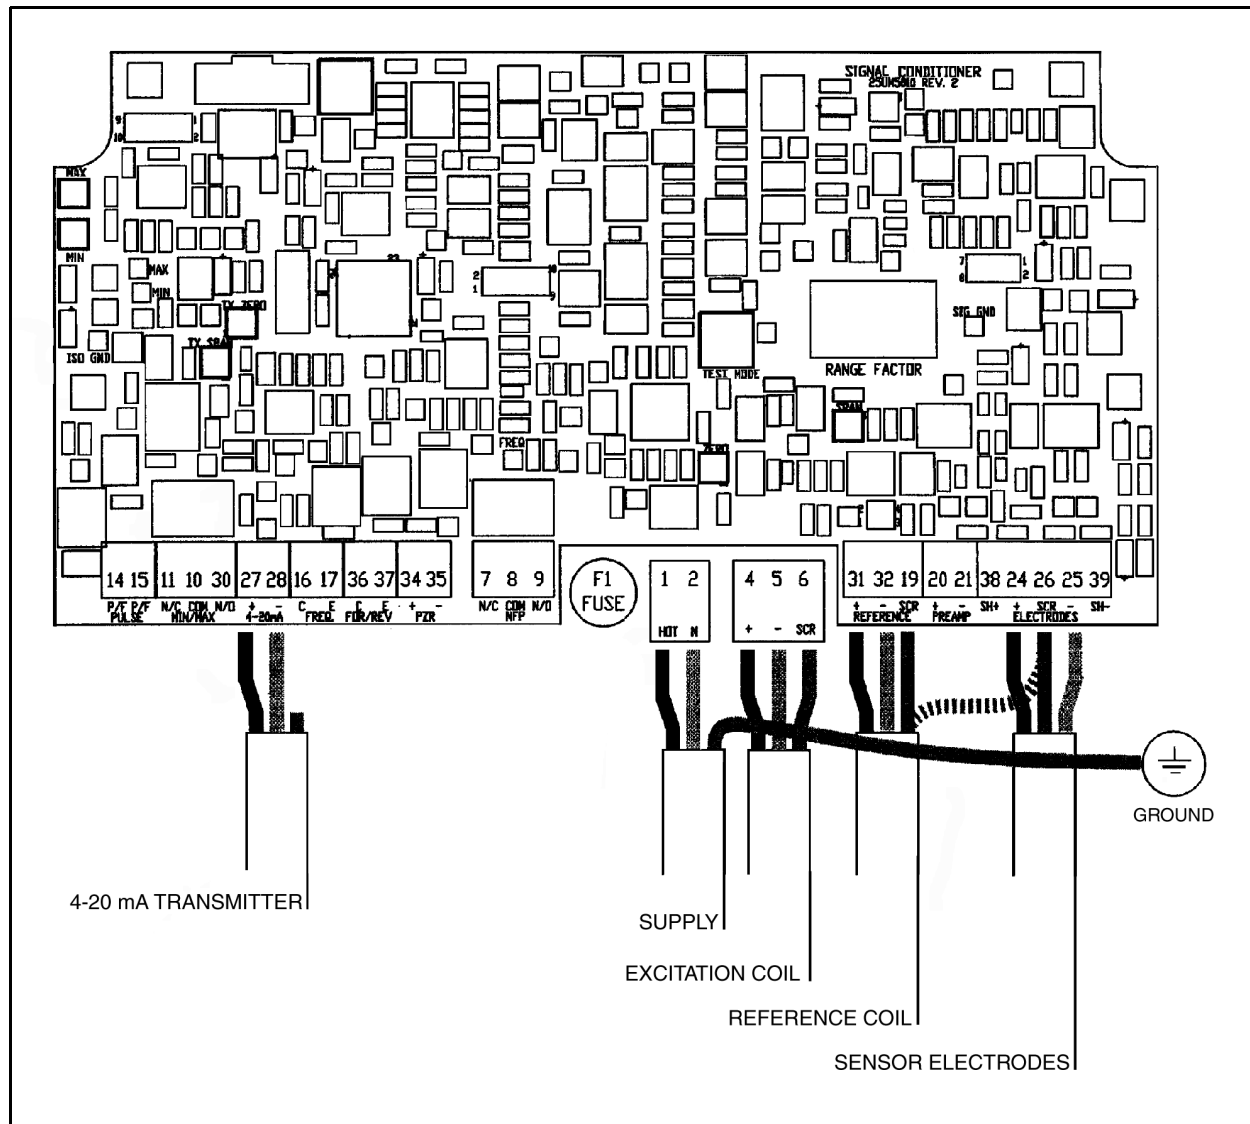

Figure GS-2 4412 Connection Diagram
The list below provides a summary of the flow meter and transmitter installation steps. More detailed instructions can be found in the 4430 and 4412 manuals. For steps 6-8, refer to the connection diagram in Figure GS-2. It is assumed your flow tube is already installed. Refer to your flow tube user manual for details.
6. Attach the Excitation Coil, Sensor Electrodes, and Reference Coil wires to the terminal connections on the 4412 as indicated in the table below and in Figure GS-2.